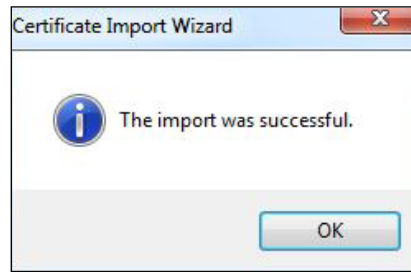

Figure 6: Import Successful Dialog Box.
7. A new dialog box window opens to verify that the import was done successfully (see Figure 6).